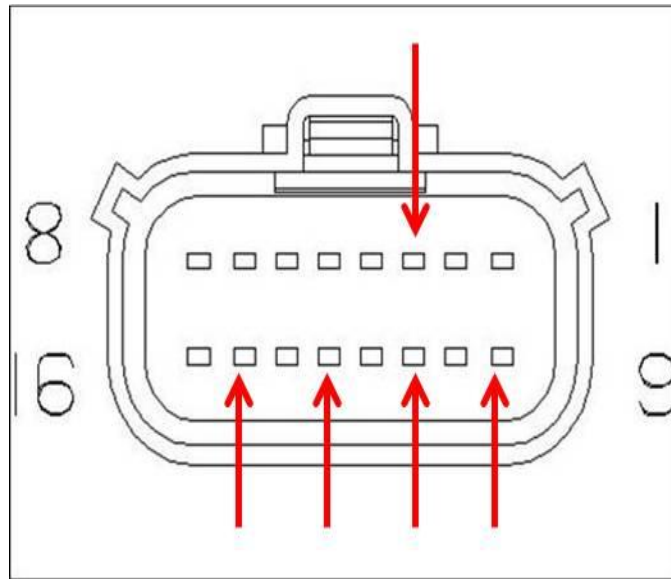

Fig. 6 TERMINALS TO BE REPLACED
8. Replace terminals #3, 9, 11, 13 & 15 (one at a time) as called out with RED ARROWS in (Fig. 6) with the gold terminal / pigtail included in Wire Repair Kit, p/n 68203454AA. The pigtail splice points should be staggered to eliminate bulk in the harness;